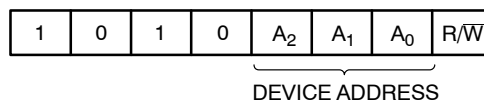

Figure 3. Slave Address Bits
The Master addresses a Slave by creating a START condition and then broadcasting an 8-bit Slave address. For the CAT24C64, the first four bits of the Slave address are set to 1010 (Ah); the next three bits, A2, A1 and A0, must match the logic state of the similarly named input pins. The R/W bit tells the Slave whether the Master intends to read (1) or write (0) data (Figure 3).